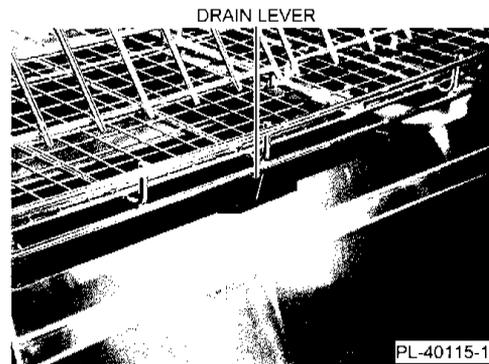

Fig. 4
- FILL** Timed fill requires about 3 minutes. Be sure Drain Lever (Fig. 4) is closed. Press the START button to begin a timed fill.
### DRAIN LEVER (Fig. 4)